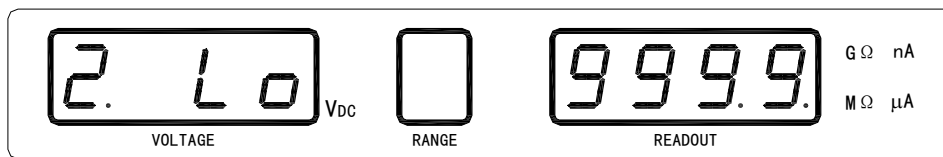

Figure 3-4 Low Limit Setup
- 2) Press **▲** or **▼** key to scroll through the main setup items, until “2. Lo” is flashing in the voltage window as shown in the following figure 3-4.